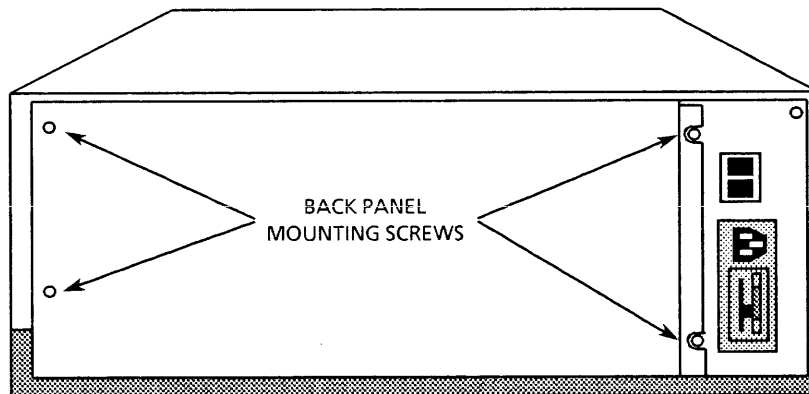

Figure 2-2. Removing Back Panel
2. Remove the four screws holding the back panel in place (see Figure 2-2) (two #6 sheet metal screws and two #6 machine screws).